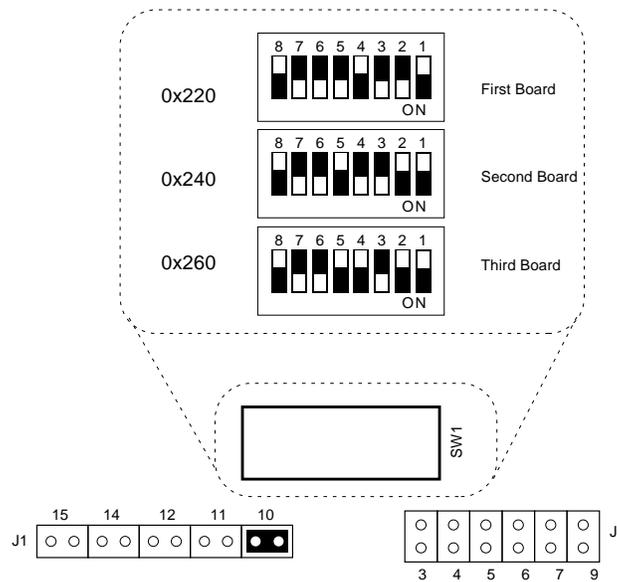

Figure A-27. IFP4 Switch and Jumper Settings
2. Check the I/O address DIP switch (SW1) settings on the board. The switches should be set as shown in Figure A-27.